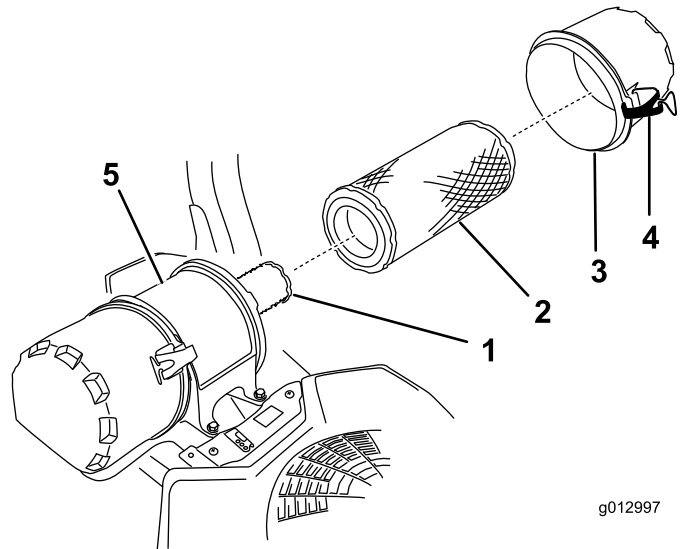

Figure 26
6. Release the latches on the air cleaner and pull the air-cleaner cover off the air-cleaner body (Figure 26).
8. Gently slide the outer filter out of the air-cleaner body (Figure 26).
2. If you are replacing the inner filter, carefully slide it into the filter body (Figure 26).
- Carefully slide the outer filter over the safety filter (Figure 26).